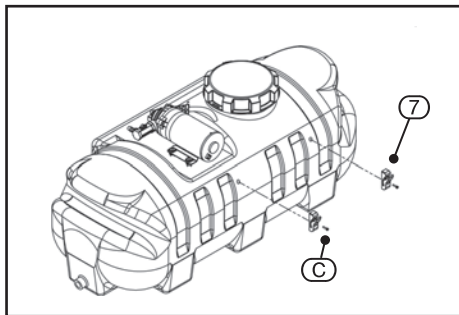

FIG. 1
9.1 ATTACH LANCE CLIPS TO TANK – FIG. 1